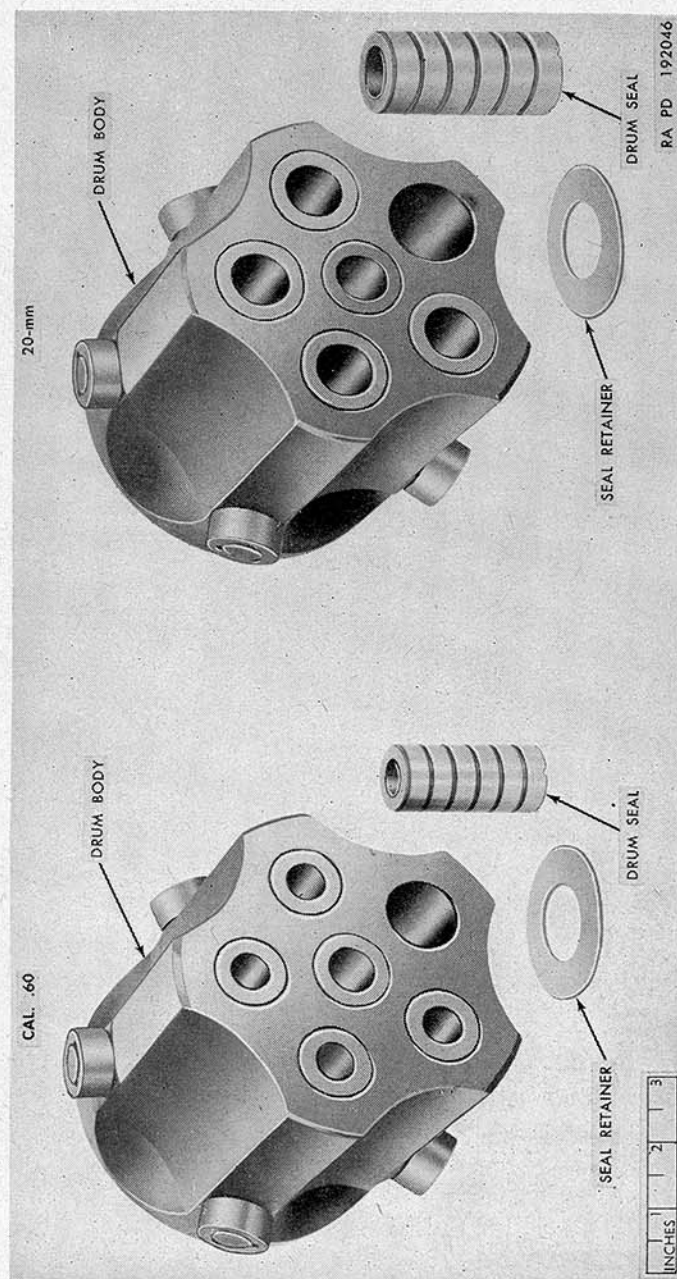

Figure 6. Comparison of drum assemblies of 20-mm and cal. .60 guns.
c. *Drum Assembly* (fig. 6). The drum bodies for the 20-mm and cal. .60 guns differ only in the diameter and depths of the bore for the drum seals. The drum seals for the 20-mm gun are longer and have a larger bore and outside diameter than the drum seals used for the cal. .60 gun. The drum seal retainer for the 20-mm gun is smaller in diameter than for the cal. .60 gun.